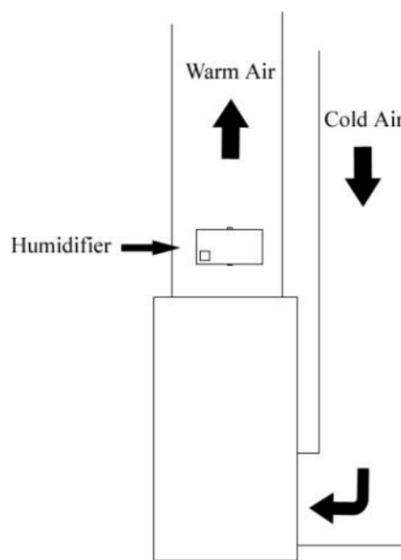

Figure 1
3.2 Mount the humidifier on the hot air plenum only, with the nozzle pointing up in the direction of airflow (see Figure 1, left). On narrow plenums, mount the humidifier on the narrow side.